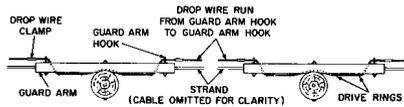

FIGURE 6. Drop Wire Run Along Lead From Guard Arm to Guard Arm
3.06 When making runs along the lead from guard arm to guard arm or from guard arm to pole, dead end the drop wires as shown in Figures 6, 7, and 8.